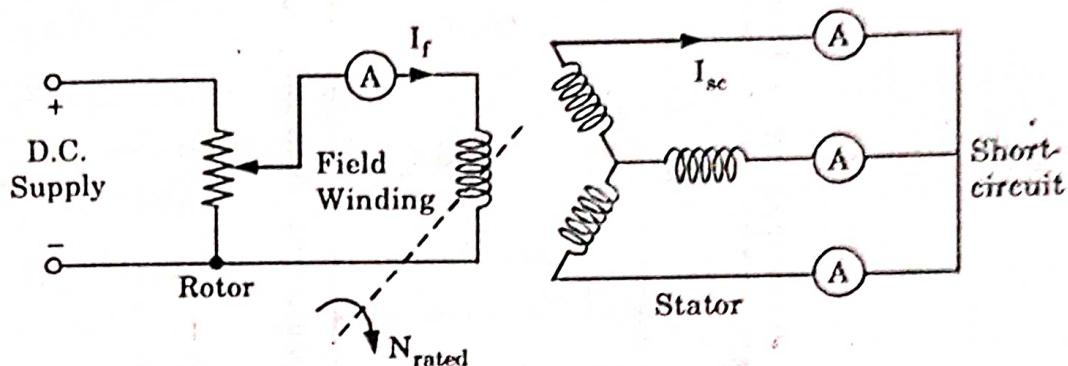

Fig. 1.13.3. Short-circuit test on an alternator.
1. The armature terminals are shorted through three ammeters Fig. 1.13.3.